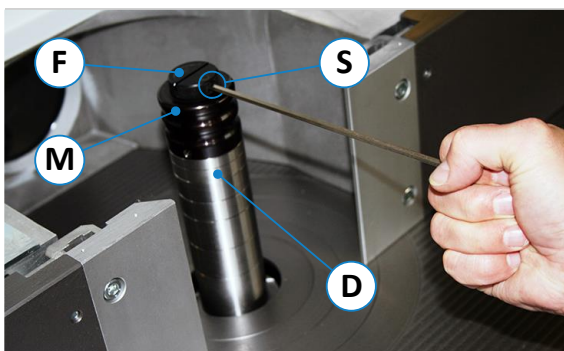

Figure 18: Milling arbor with quick clamping device
- Turn the milling spindle by hand so that the clamping screw (S) is accessible (see ⇒ Figure 18).
- Press the emergency stop button (4) and leave it locked.